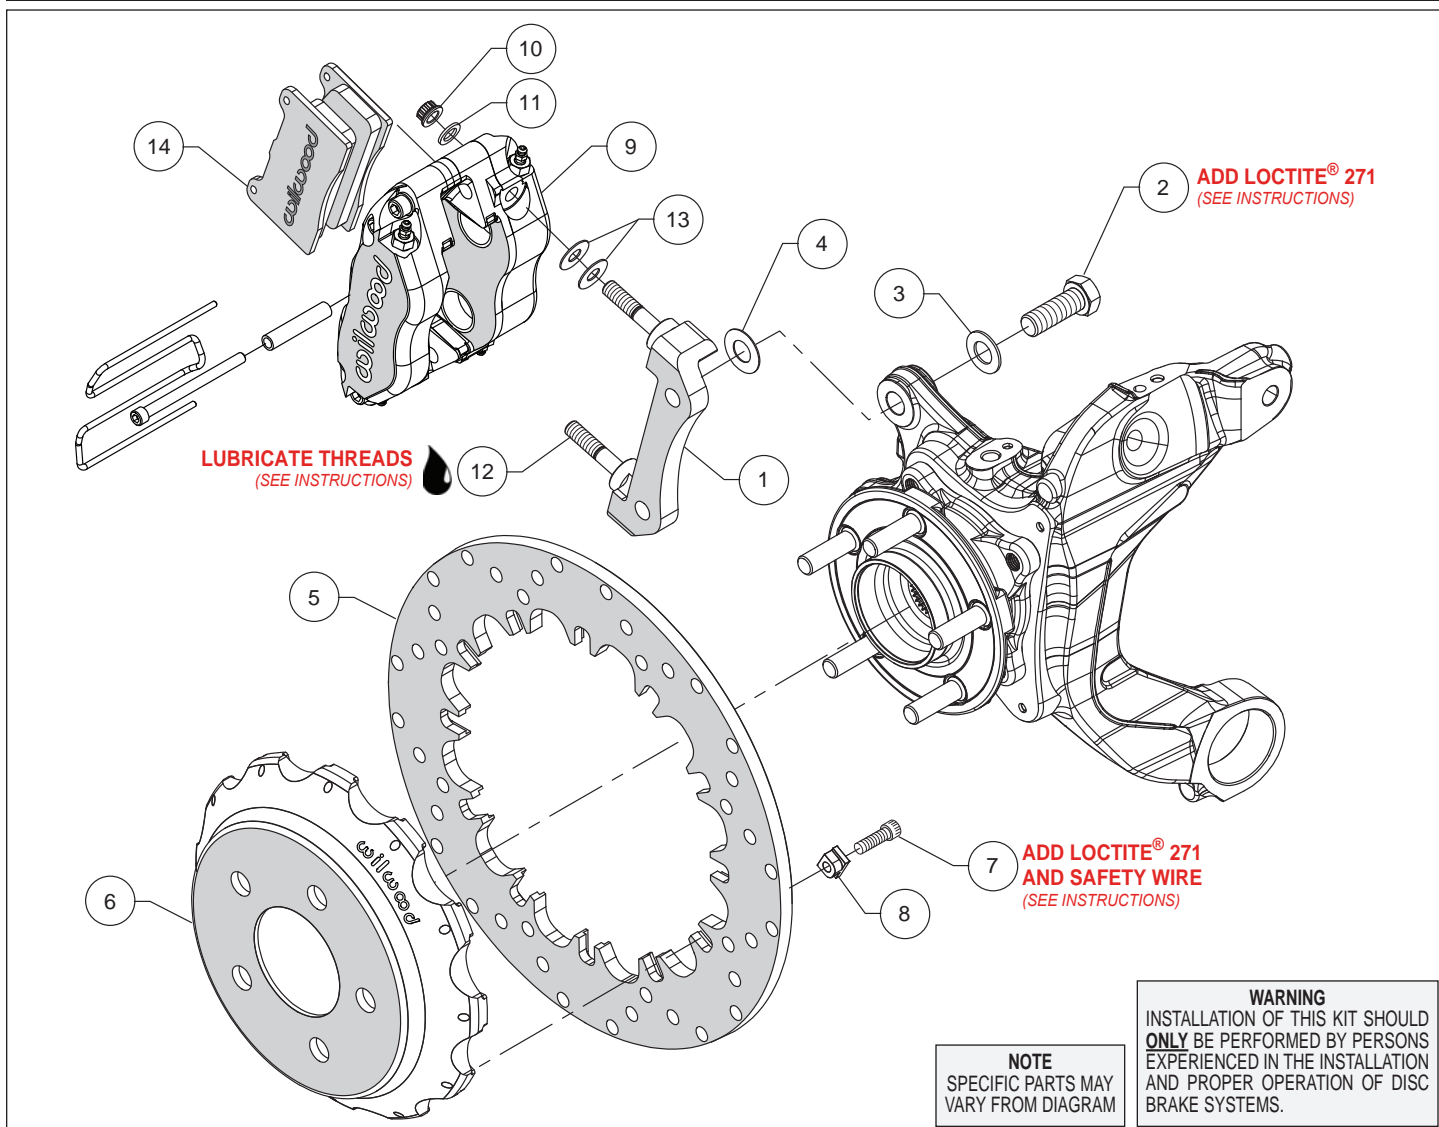
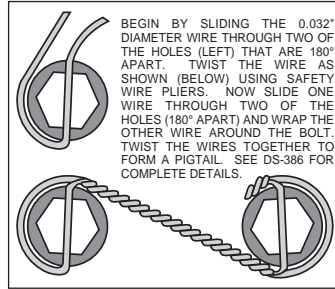

Figure 1. Typical Installation Configuration
Figure 3. Safety Wire Diagram
Assembly Instructions (numbers in parenthesis refer to the parts list and Figure 1 on the preceding pages):
- The caliper mount bracket (1) should initially be installed with clean, dry threads on the mounting bolts. Orient the bracket, as shown in Figure 1 and Photo 1, and install using bolts (2) and washers (3). Initially place one .033" thick shim (4) on each bolt between the bracket and upright, Figure 1. Temporarily tighten the mounting bolts. **NOTE: The bracket must fit squarely against the mount bosses on the upright.** Inspect for interference from casting irregularities, machining ridges, burrs, etc. Later, after the caliper alignment has been checked, the mount bolts will be secured using red *Loctite*® 271.
- Orient the rotor (5) and the hat (6) as shown in Figure 1 and Photo 2. Attach rotor to hat using bolts (7) and t-nuts (8). Using an alternating sequence, apply red *Loctite*® 271 to the threads, and torque to 120 **in-lbs**. The bolts must be safety wired using standard 0.032 inch diameter stainless steel safety wire as shown in Figure 3. Refer to Wilwood's data sheet DS-386 (available at www.wilwood.com/Pdf/DataSheets/ds386.pdf) for complete safety wire installation instructions.
- Lubricate the caliper mounting studs (12) with lightweight oil. Initially place two .035" thick shims (13) on each stud as shown in Figure 1 and Photo 4. Mount the caliper (9) onto the bracket (1) using lock nuts (10) and washers (11), Figure 1. Temporarily tighten the lock nuts and view the rotor through the top opening of the caliper. The rotor should be centered in the caliper, Photo 5. If not, adjust by adding or subtracting shims (4) between the bracket and the mounting bosses. Once the caliper alignment is correct, remove the bracket mounting bolts one at a time, apply red *Loctite*® 271 to the threads, and torque to 77 ft-lbs.
- Insert the brake pads (14) into the caliper with the friction material facing the rotor (5), as shown in Figure 1 and Photo 6. Check that the top of the brake pad is flush with the outside diameter of the rotor, Photo 7. If not, adjust by adding or subtracting shims (13) between the caliper and the bracket. After the caliper pad height is set, torque the caliper lock nuts (10) to 30 ft-lb. Secure the pads in place using the pad clip retainer as well as the center bridge pad retainer tube, bolt, and locknut, Photo 8. The locknut should be snug without play in the bolt or tube. Be cautious not to over tighten.